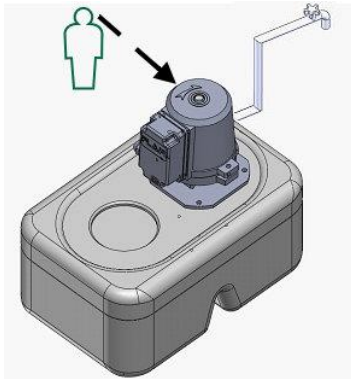

Fig 5
- For three phase pumps, rotating direction must be checked before operation. In bird's eye view, pump rotating direction should be same as the arrow direction marked on the fan cover. (As shown in Fig. 5 and 6). Otherwise, turn off the power and interchange any two of the lead wires (U, V, W), then the pump rotation can be reversed.
- 2) Check whether three phase pump is rotating correctly. The rotating direction should be clockwise, same as the arrow direction marked on the fan cover. (As shown in fig. 5 and 6)